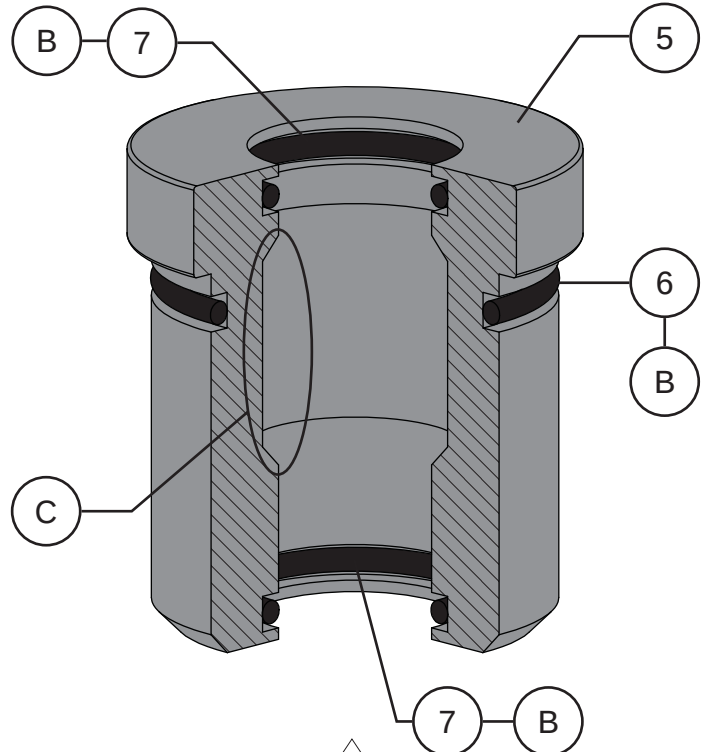

Figure 77 Bushing / O-Ring Detail
- 12 Using a pick set, carefully remove the o-rings (Keys 6 & 7) from the bushing (Key 5). Refer to Figure 77.